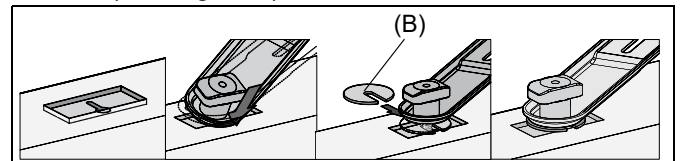

Figure 4
**IMPORTANT ! :** If needed, use fender washers (B) under soundbar bracket (A) to rest flat onto the soundbar surface. (See Figure 4)